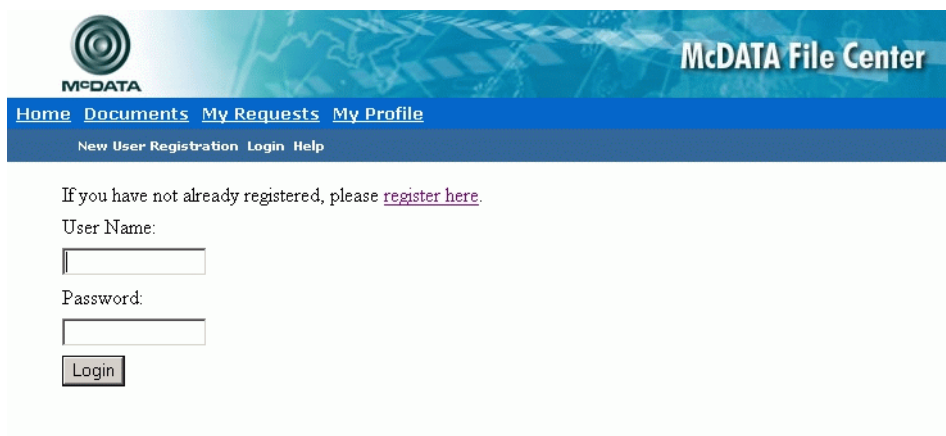

Figure 4-33 McDATA File Center (Login Page)
2. Select (click) the *Login* option at the top of the home page. The *Login* page displays (Figure 4-33).